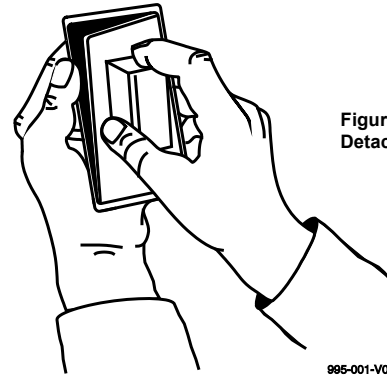

Figure 1.
To enable or disable the Alarm LED or to change the Pulse Count, you will need to access the PC board located in the base of the PIR. Separate the base from the mounting plate as follows: Holding the base with one hand, bend the upper left-hand edge of the mounting plate downward with the thumb and forefinger of the other hand to separate the base from the mounting plate in that area. See Figure 1. Do the same for the lower left-hand edge, and then detach the base.
1. Separate the base from the mounting plate (see Figure 1).